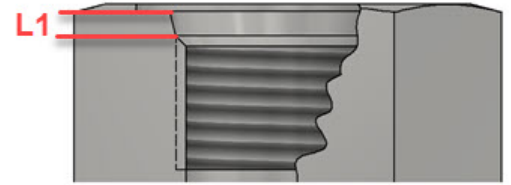

Figure 3. O-ring gland area
- Depth of the O-ring gland area, shown in Figure 3 as L1. If it's too short this leads to O-ring overfill, meaning the volume of the gland is not sufficient for the O-ring.